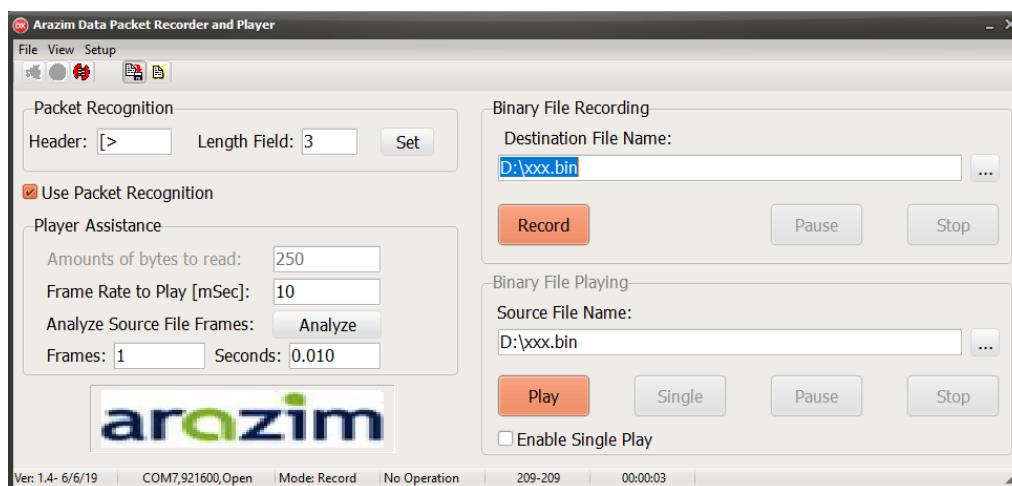

Figure 16. arazim Data Packet Recorder and Player
3. In the three buttons on the left of the Toolbar (Figure 16):